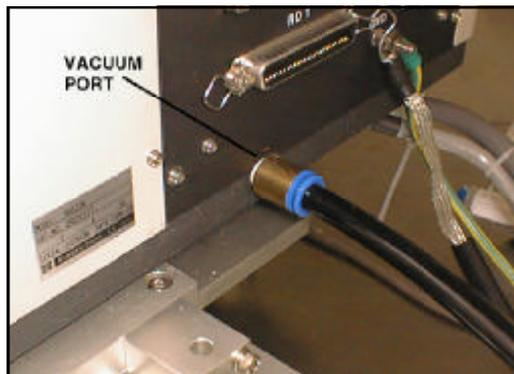

Figure 5-6. Vacuum pump accessory tube connection.
- 1) Using the accessory tube, connect the vacuum pump tube fitting to the tube fitting shown in Figure 5-6.
- b) The vacuum pump is disconnected from the detector. Ensure the vacuum pump hose is connected properly to the detector, refer to Figure 5-6.